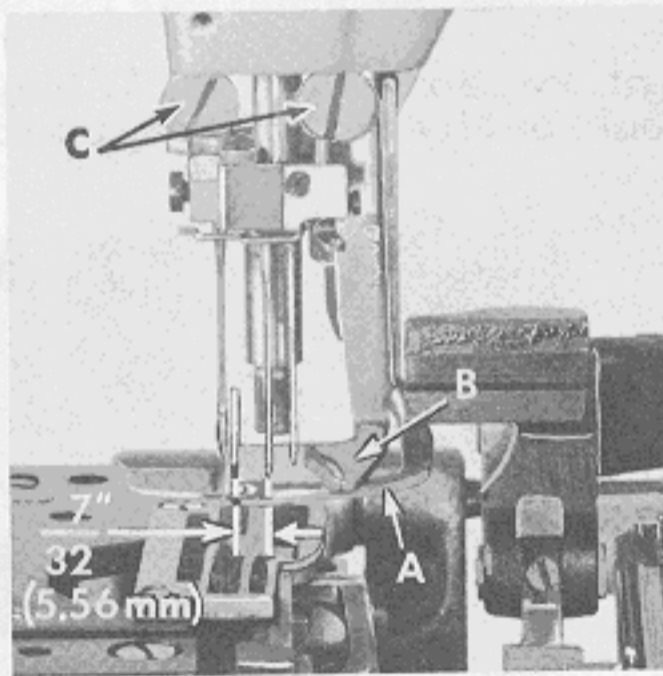
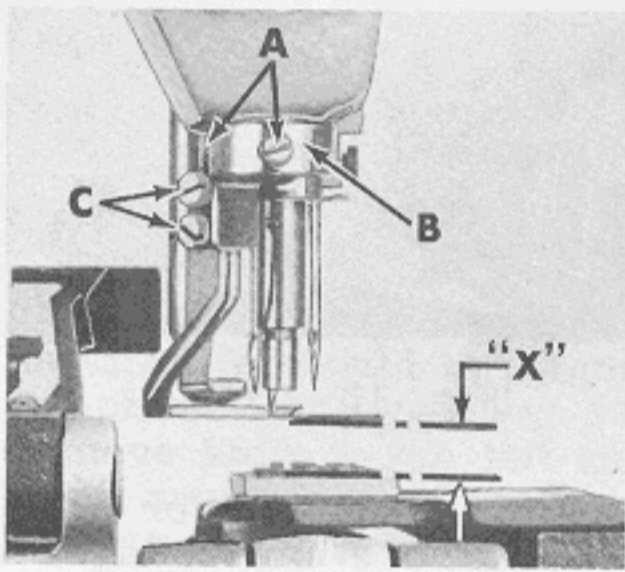

Fig. 11
Fig. 12
With the needle bar in its up position, and the spreader (A, Fig. 11) at the left end of its stroke, the upper spreader point should extend 7/32 inch (5.56 mm) to the left of the centerline of the center needle. This is accomplished by loosening screws (A, Fig. 12) and rotating spreader holder (B) to position the upper spreader point. Retighten screws.
CAUTION: The spreader holder is also the lower thrust collar for the spreader shaft, so when tightening screws (A, Fig. 12) be sure to push down on the spreader shaft and up on the spreader holder.
The spreader should clear the left needle shank by 1/64 to 1/32 inch (.40 to .79 mm) on all machine Styles. The bottom of the spreader should be 21/64 inch (8.33 mm) above the throat plate on machine Style 57900 H and 27/64 inch (10.72 mm) above the throat plate on machine Style 57900 N ("X" Fig. 12). Adjustment can be made by loosening screws (C, Fig. 12) and position spreader as required.
The left edge of the spreader thread guide (B, Fig. 11) should clear the right needle by approximately 3/32 inch (2.38 mm) and be kept close to the top of the spreader. This can be accomplished by loosening screws (C) and moving the guide as necessary.